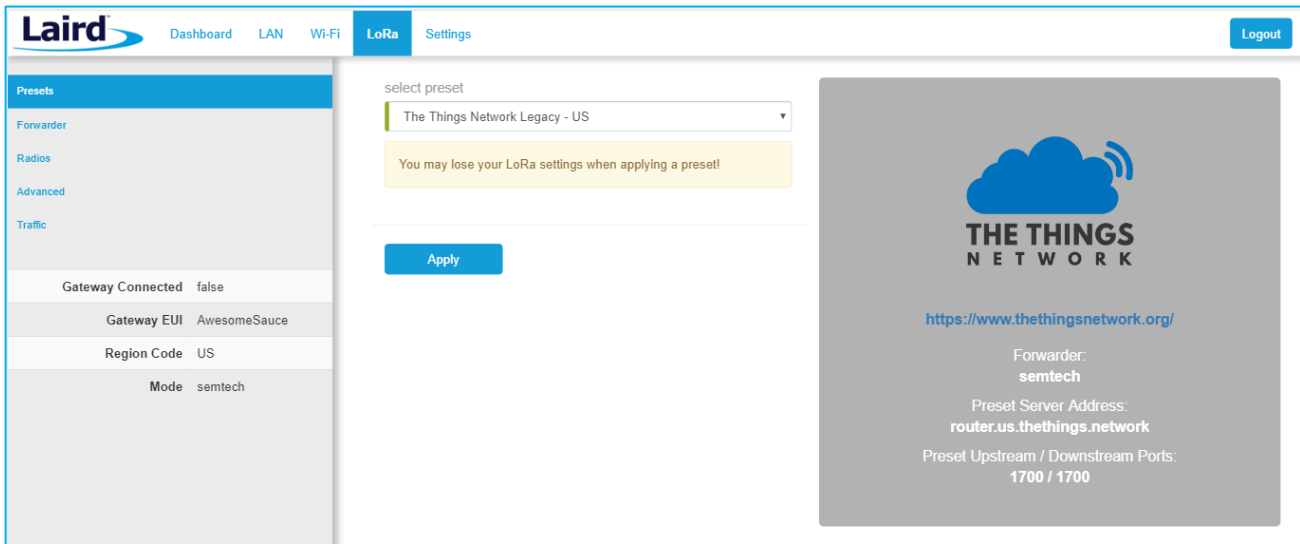

Figure 21: Selecting a preset configuration
2. Select the preset from the drop down. Information about this preset is displayed in a panel to the right (Figure 21).